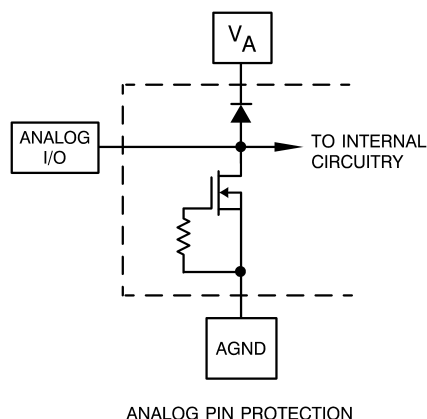
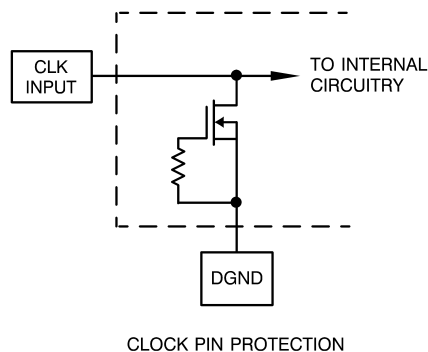
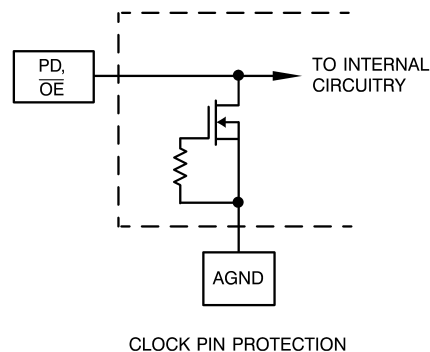

Figure 1.
Figure 2.
Figure 3.
- The inputs are protected as shown below. Input voltage magnitudes up to 500mV beyond the supply rails will not damage this device. However, errors in the A/D conversion can occur if the input goes above V_A or below AGND by more than 300 mV. See Figure 1, Figure 2 and Figure 3.
- (1) The inputs are protected as shown below. Input voltage magnitudes up to 500mV beyond the supply rails will not damage this device. However, errors in the A/D conversion can occur if the input goes above V_A or below AGND by more than 300 mV. See Figure 1, Figure 2 and Figure 3.
- (2) Typical figures are at $T_A = T_J = 25^\circ\text{C}$, and represent most likely parametric norms.
- (3) Tested limits are specified to TI's AOQL (Average Outgoing Quality Level).